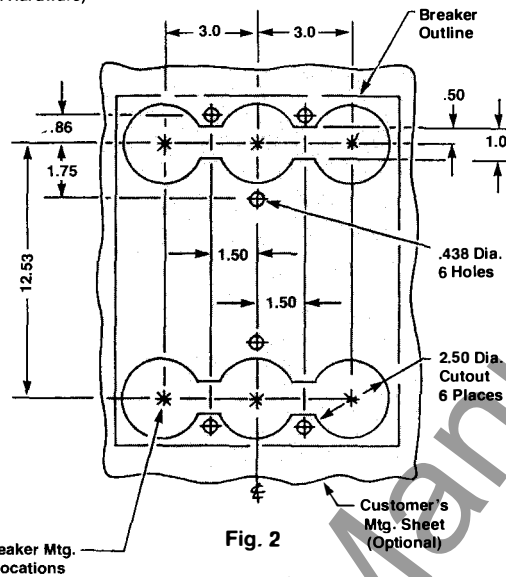

Fig. 2
- If other mounting means are to be used, provide the cutouts and drilling required to mount the adapter blocks as shown in Fig. 2.
- A. Drill customer supplied panel as indicated in Fig. 2.